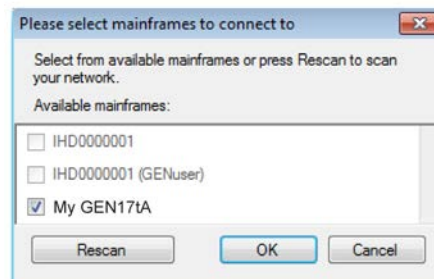

Figure C.2: Mainframe selection dialog
- 1a Press the **Rescan** button on the dialog above (see Figure C.2) to initiate a new network search for the mainframe. Typically, the mainframe should appear within a few seconds.